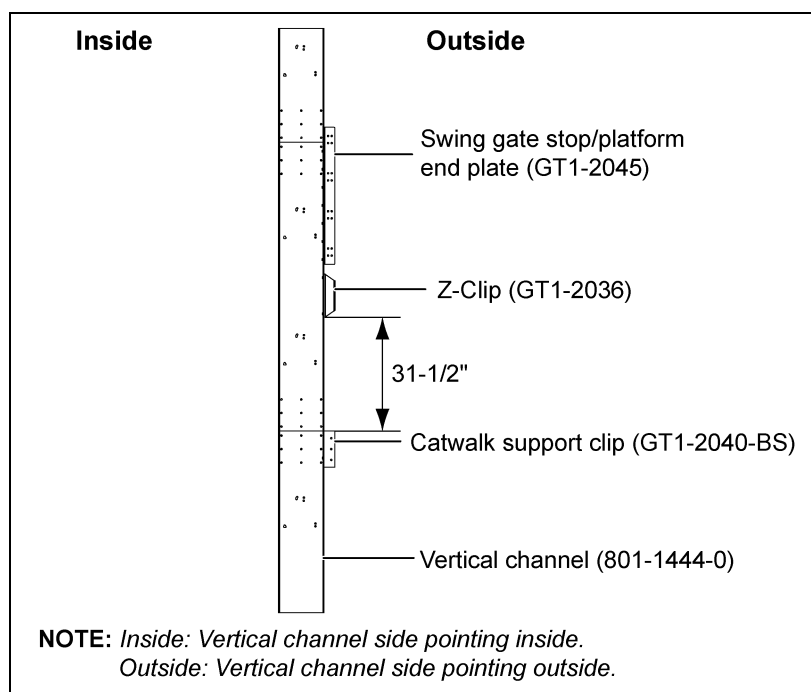

Figure 4F
2. The distance between the Z-clip and support clip for 23'-4" outside catwalk is 31-1/2". (See Figure 4F.)